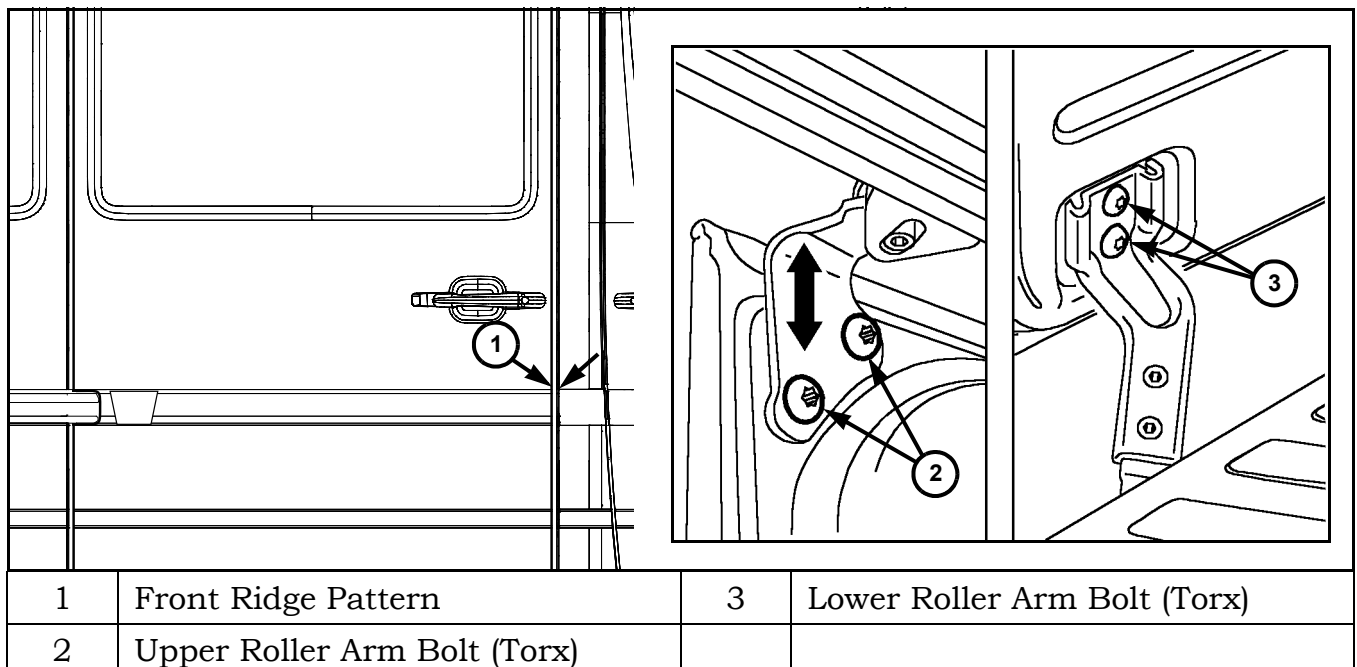

Figure 7 Front Ridge Pattern Adjustment
- Loosen upper roller arm bolts (Figure 7). Loosen lower roller arm bolts.